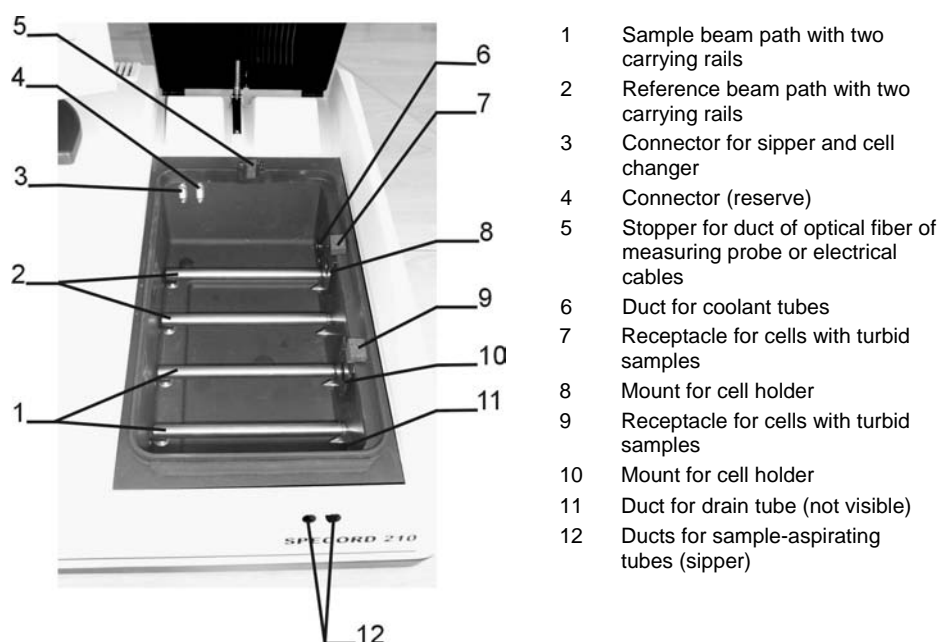

Fig. 1-1 Sample compartment
1. Slide the solid sample holder with its guide from top onto the mounting plate (Fig. 1-1 / 10).
2. Loosen knurled screw (4) and push support block (5) to the left stop.
3. Insert sample (6) into holder so that it rests on mechanical stop (2).
4. Push support block (5) towards the sample so that spring clips (3) safely hold the sample.
5. Fasten knurled screw (4).
Slide the holders from to onto the mounting plate for cell holders (Fig. 1-1 / 10).